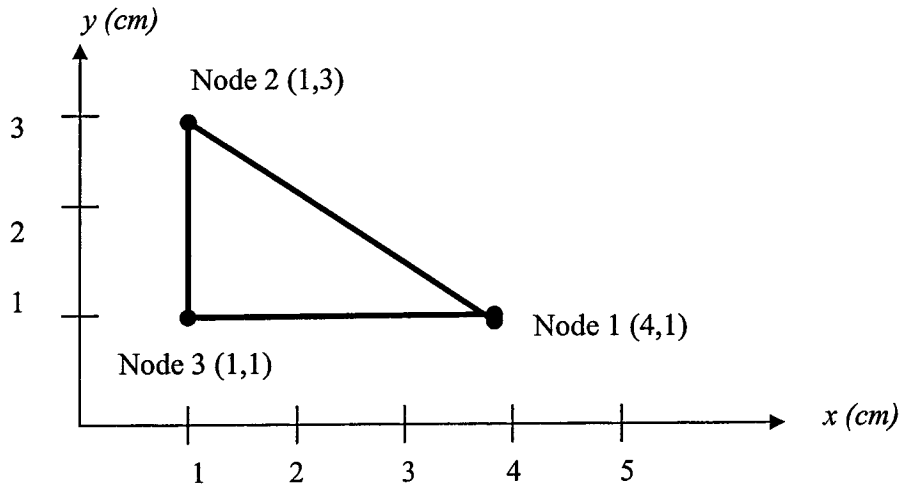

Figure 5
- (b) Show clearly in a step by step manner the development process of a stiffness matrix, $[K]^e$, for a triangular element in a state of plane stress as shown in Figure 5. Given $E = 200 \text{ GN/m}^2$, $\nu = 0.3$ and $t = 1 \text{ cm}$. Details of $[K]^e$ is not required.